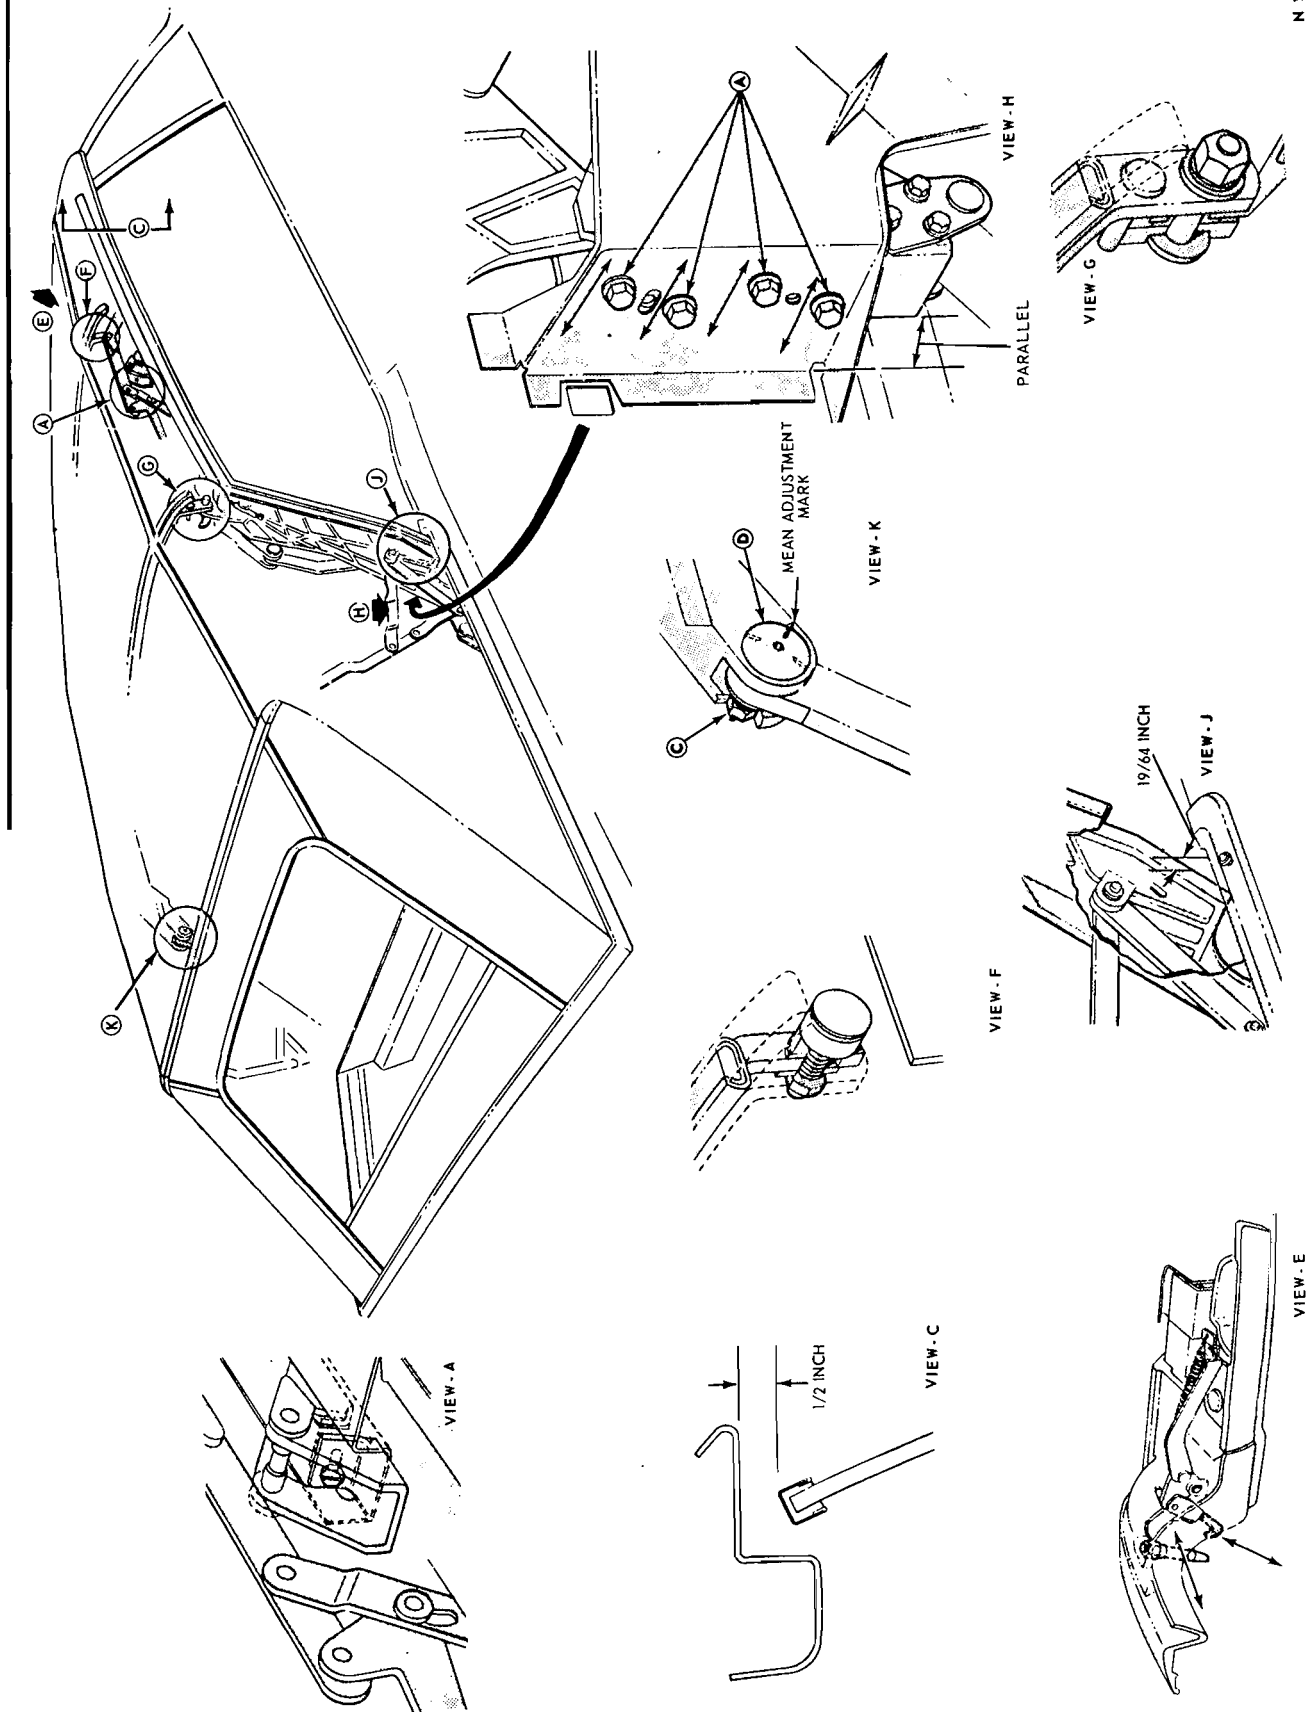

FIG. 1—Mercury Intermediate, Fairlane Top Adjustments
The top assembly must be in the up position with the door and quarter windows in the fully raised position (Fig. 1).
1. Loosen the screw and washer assemblies (Fig. 1, item A), and adjust the bracket (item B, part of the top assembly) inboard or outboard to obtain the 19/64-inch clearance dimension between the rear side rail and the belt side moulding. The bracket must be adjusted and secured in a vertical position. Tighten the screw and washer assemblies.
2. To maintain the correct design relationship between the rails and glass, the set screw (item W, Fig. 1) must be adjusted as follows: With the top up and not latched, the front and center rails should be made to maintain a continuous curve which matches the curve of the top of the side glass when pressure is applied upward under the hinge.
3. Loosen the nut (item C, Fig. 1) and rotate the cam pin (item D) to obtain the 1/2-inch parallel dimension between the rails and door glass, and between the rear rail and quarter glass. The mark on the cam pin must not be rotated more than 90° rearward of the mean adjustment mark on the rail, and should be rotated as far toward the front of the car as possible when the top is up and latched. Hold the cam pin (item D) and torque the nut (item C) to 2-5 ft-lbs. If the dowel (item E) does not line up with the sun visor bracket dowel hole on a fore and aft line, the top cloth is to be removed from the No. 1 bow. Loosen 2 screws (item F). Then, the top cloth should be tacked and cemented. In some cases, the No. 1 bow can be adjusted to a small de-